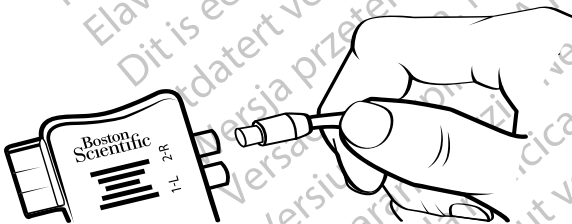

Figure 16. Connection of the 1x8 OR Cable to ETS 2 and ETS Adapter
4. Plug the OR Cable with Extension into the ETS Adapter Port labeled "1-L" (Figure 16).